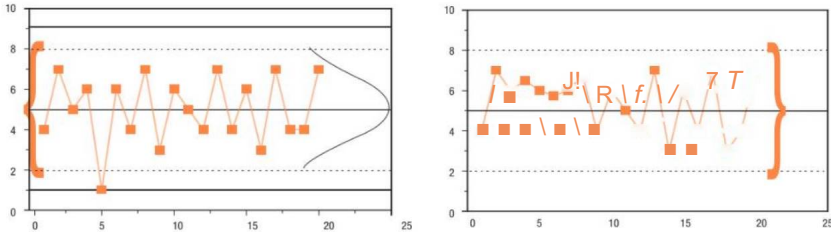

FIGURE 10.12 Examples of control charts
Let's look at some of the related terms you should know for the exam. The following can be indicated on a control chart. As you study these terms, use figure 10.12 to envision what they mean in practice. Understanding these terms and how control charts are used can help you get a few more questions right on the exam.
- **Plotting the control chart** During the Control Quality process, samples are taken and the data are plotted in software that can render a chart (see the small squares shown on the control chart in figure 10.12). The control chart shows whether each sample is within acceptable limits. If the data does not fall within the acceptable range, the results are considered to be “out of control,” which indicates a problem that needs to be fixed.
- **Mean (average)** The mean is indicated by a line in the center of the control chart. A normal distribution curve represents the acceptable range of variance around a mean, and it falls within the boundaries of the control limits. In figure 10.12, the normal distribution curve is on the right side of the first control chart.
- **Specification limits** While control limits represent the performing organization's standards for quality, specification limits represent the customer's expectations—or the contractual requirements—for performance and quality on the project. Specification limits are inputs from the customer. Therefore, they can appear either inside or outside the control limits. In the first chart of figure 10.12, they are the solid lines above and below the dashed lines (which represent the upper and lower control limits). To meet the customer's specification limits, the performing organization's standards for quality (control limits) must be stricter than those of the customer. On the exam, assume that specification limits are outside the upper and lower control limits.
- **Rule of seven** The rule of seven is a general rule (and you may see a general rule described as a “heuristic”). It refers to a group or series of data points that total seven or more on one side of the mean. The control chart on the right in figure 10.12 has seven nonrandom data points that fall above the mean. The rule of seven tells the project manager that, although none of these points are outside the control limits, they are not random, and the process is out of control. The project manager should investigate this type of situation and find a cause.
- **Assignable cause/special cause variation** An assignable cause or special cause variation signifies that a process is out of control. (See the data point sitting on the lower control limit in the left chart in figure 10.12.) If there is an assignable cause or special cause variation, it means a data point, or a series of data points, requires investigation to determine the cause of the variation. The project manager could use additional tools, such as a cause-and-effect diagram, to try to uncover the root cause of the variation.